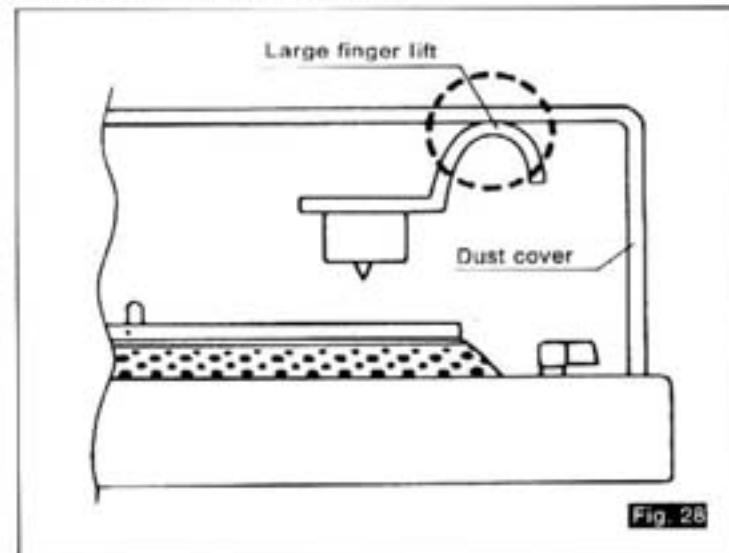

Fig. 28
- ⑦ When you use other head shells, be careful about the head shell configuration. (See Fig. 28).